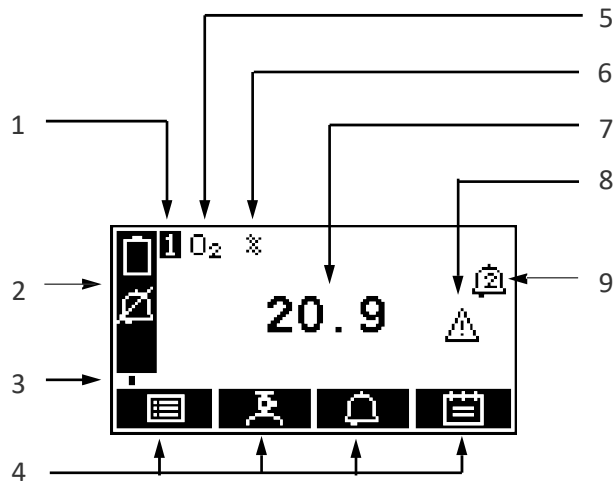

Figure 4: The Measurement screen
The Measurement screen is then displayed, as shown in Figure 4 below:
The four soft key legends at the bottom of the Measurement screen (Figure 4) correspond to the four soft keys on the top of the 5100 i.s. (The first legend *corresponds* to the function of soft key 1, the second legend corresponds to the function of soft key 2, and so on).